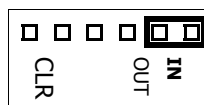

Fig. 2: "IN" Position
4. Move the MEMORY BACKUP CELL jumper to the IN position to remove power from the static RAM, thus making installation safer for the memory components (see Fig. 2).
Note: Be sure the MEMORY BACKUP CELL jumper is in the IN position to provide memory data retention (see Fig. 2)..